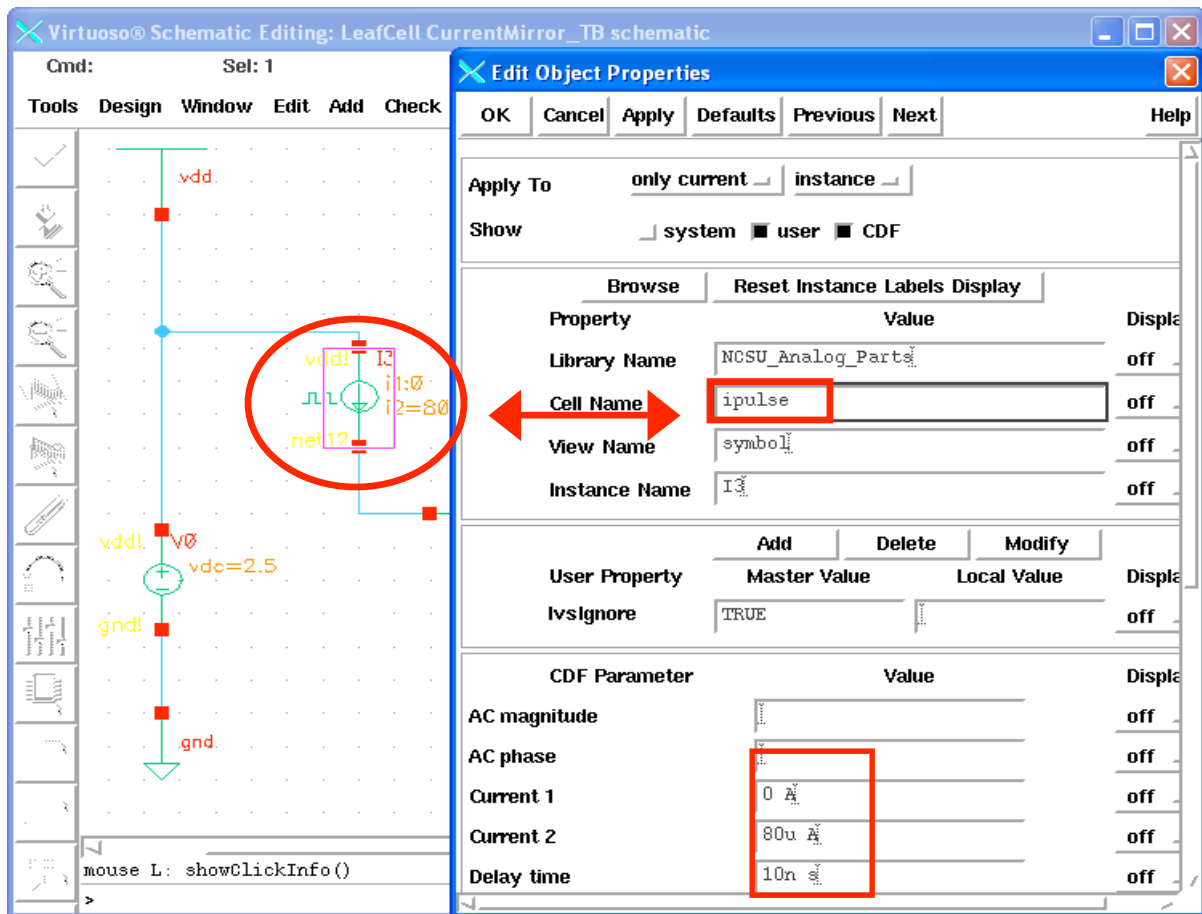

Figure 122: Editing the current source.
1. Go to CurrentMirror_TB, click at the current source (Figure 122), keying "Q" to bring out the *property editor*, and then replace the part **idc** with **ipulse**. Set it up as in Figure 122. After the editing, click OK to conform.